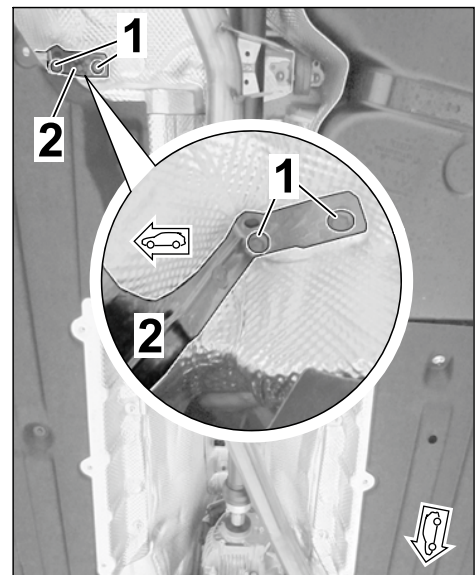

Figure 7
- 1.3.2 Remove hexagon flange bolt, M8 x 25 (2 x) on the heat shield holder (⇒ *Figure 7*).